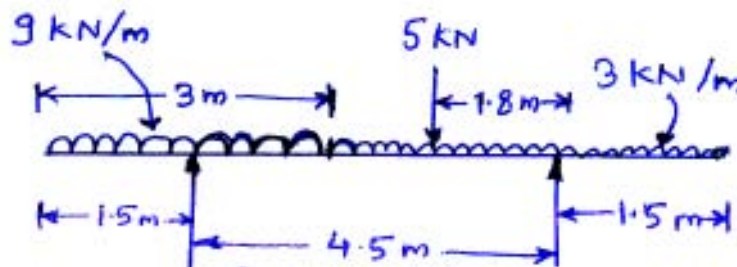

Figure 3
- 6. a) Draw the complete shear force and bending moment diagram for overhang beam shown in figure 3 below.